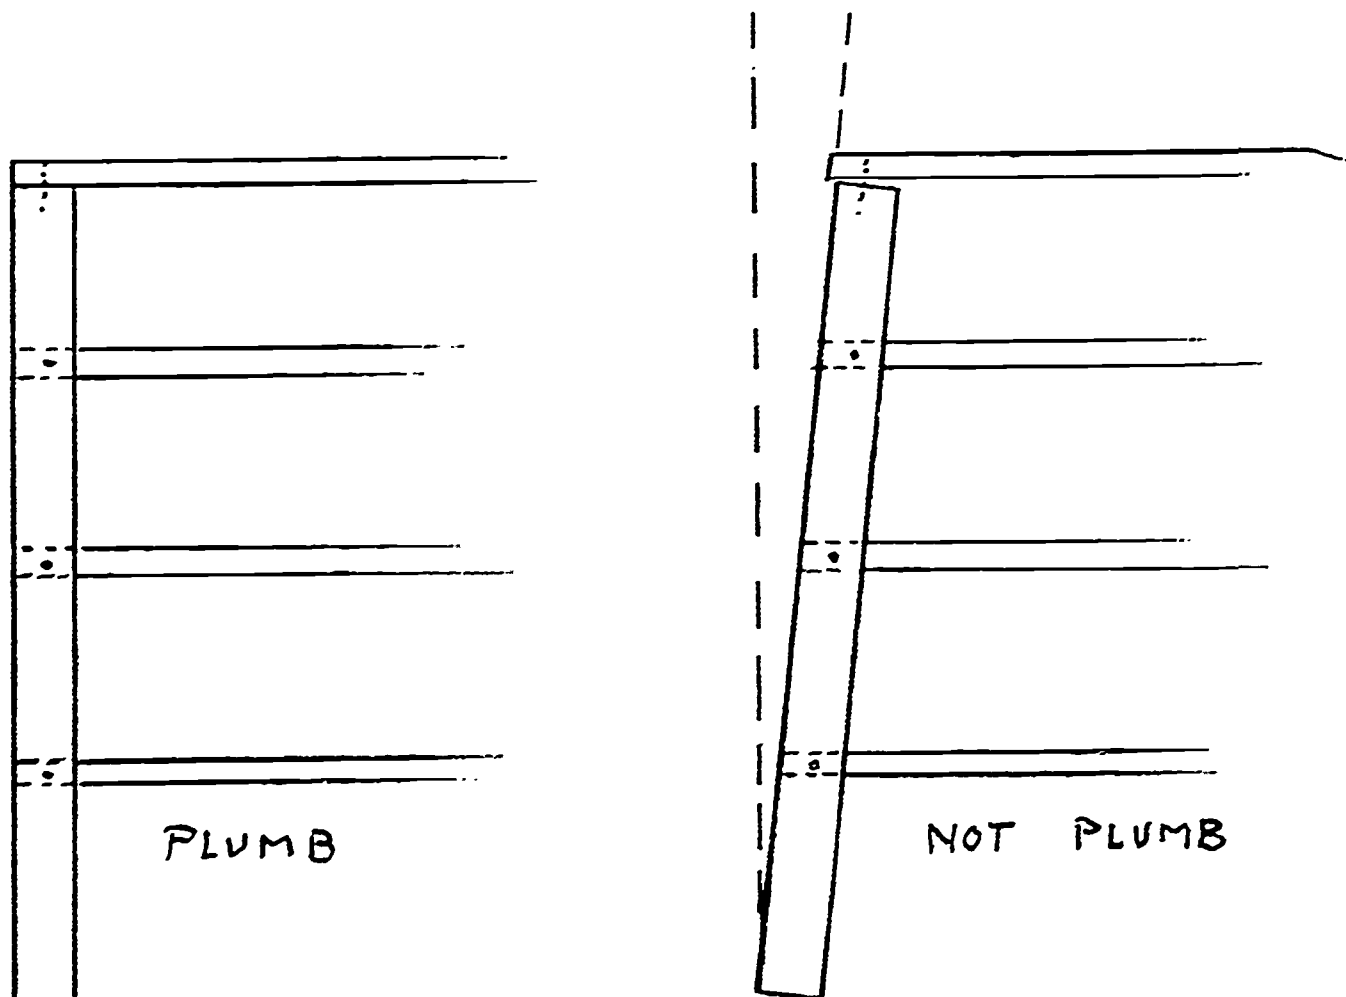

FIG. 235
- b. Make sure unit is plumb. See figure 235.